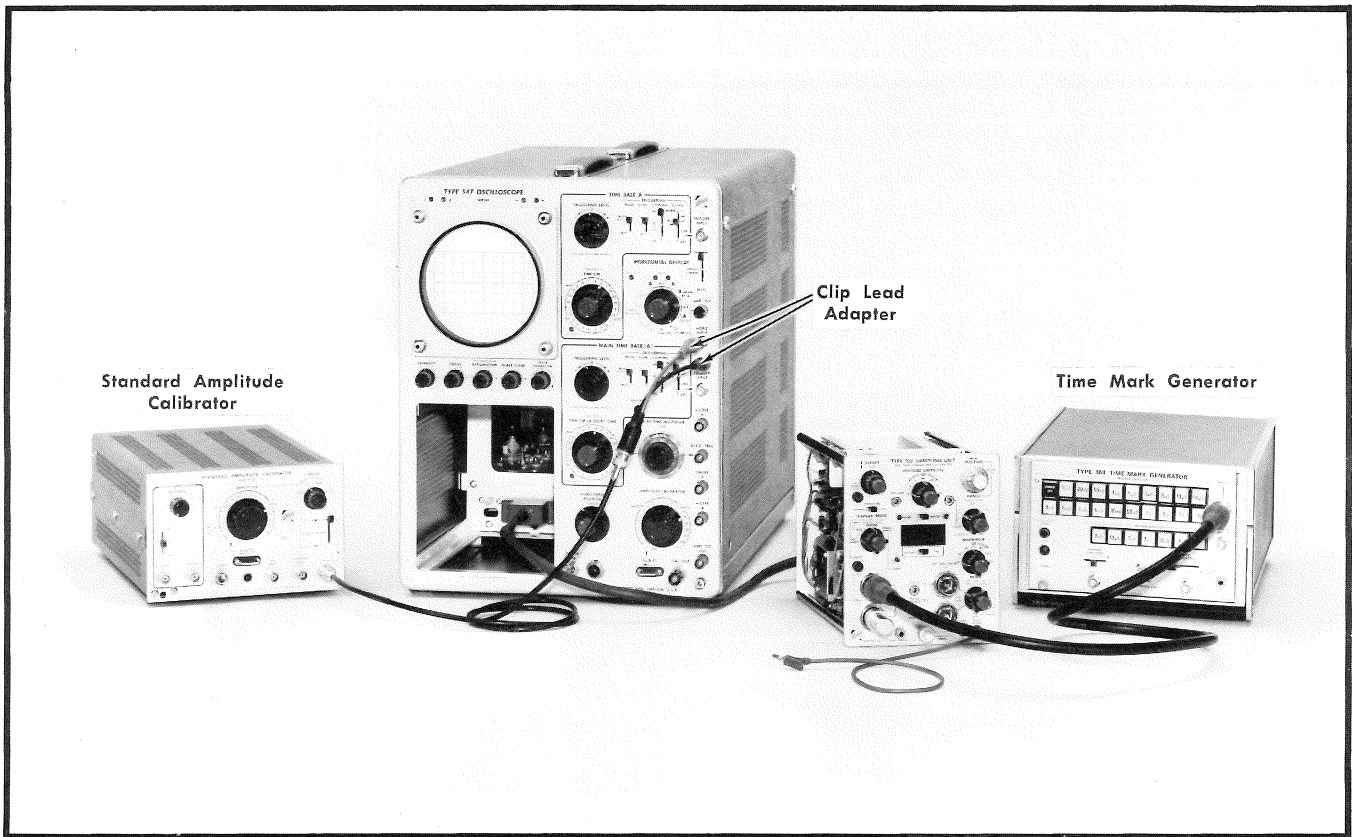

Fig. 7-17. Initial equipment setup for steps 20 through 25.
a. Preliminary equipment setup is shown in Fig. 7-17. Parts b through e accurately set the horizontal gain of the Indicator Oscilloscope.